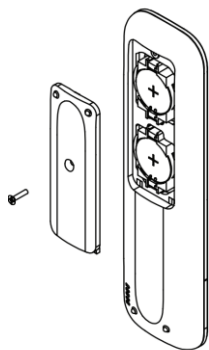

Fig. 25
1. Remove battery cover of the remote control using a Philips screwdriver (Fig 25).